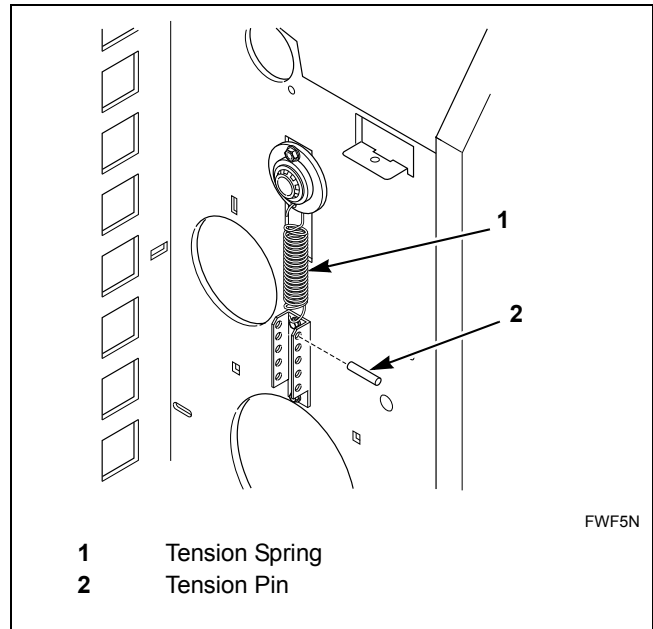

Figure 30
4. Unhook the return ribbon tension spring from the tension pin on each side of finisher. Refer to *Figure 30*.